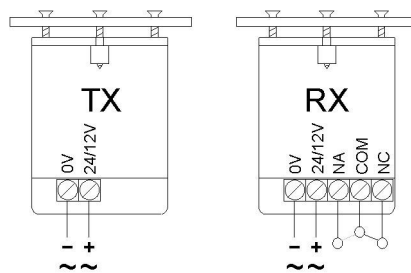

Fig. 2
Terminal board connections: (fig. 2)
- Connect the cables to the terminal board following the scheme (fig. 2).